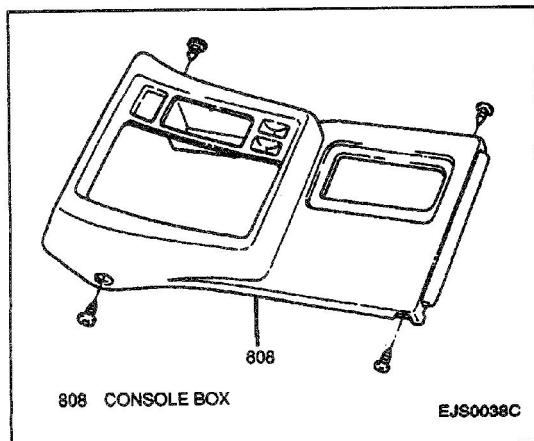

Figure 5—Console
4. Two screws, two plastic retaining clips and lift console (Figure 5).